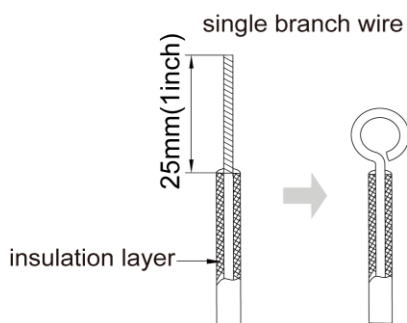

Fig 5.1-1
- (1) The connection of wire (as shown in fig 5.1.1)